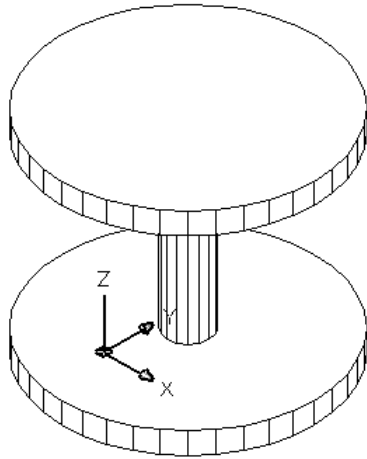

Figure 21-15: A cable spool created by drawing 2D circles with thickness and elevation.
12. Save your drawing. It should look like Figure 21-15.
Except for certain true solids, much of 3D work starts with a 2D shape. However, the 2D drawing commands can be drawn only on, or parallel to, the XY plane. For example, the spool in Figure 21-15 consists of three circles, all parallel to the XY plane. How do you draw a circle, or any other 2D object for that matter, that is not parallel to the XY plane?